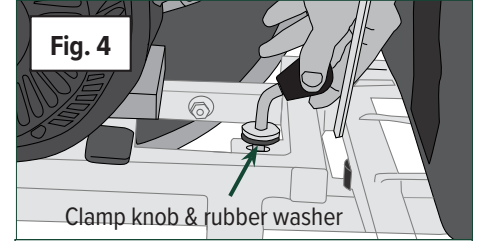

Fig. 4
2. **(Fig. 4)** Using a small funnel, slowly pour oil into the opening **until the oil reaches the bottom edge of the butterfly hole.** (See chart above for recommended oils.)
2. **(Fig. 4)** Line up the mounting brackets on the front and rear of the Engine/Blower Unit over the threaded holes in the chassis.
4. **(Fig. 4 & 5)** First, loosely slip the other band clamp onto the grass catcher boot. Then slip the rubber collar with the deck hose over the grass catcher boot on your mower deck. Pull the band clamp over the rubber collar and tighten to secure.